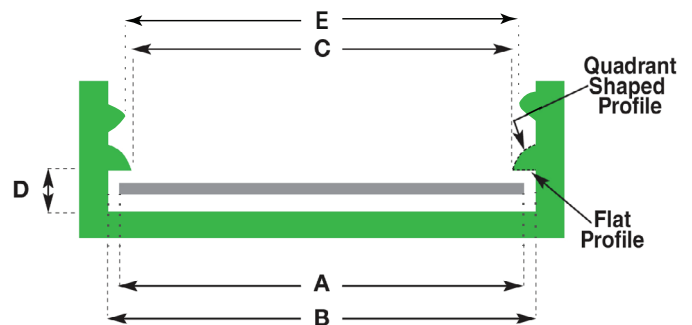

Figure 11c: Dimensional relationships between closure & innerseal.
*Liner Diameter Clearance (mm) = "B" (mm) – "A" (mm) (See Figure 11c)*
*Interference Fit (mm) = "A" (mm) – "C" (mm) (See Figure 11c)*
**3. Retention Bead Profile** - to minimize damage to liner upon insertion but ensure retention in closure. (See Figure 11c)
With regard to the Retention Bead Profile, ideally this should be quadrant shaped on top (insertion side) and flat underneath (retention side) to minimize insertion distortion and to resist liner pull-out. Avoid tapers or radii from the bead flat to the side wall to avoid the liner jamming on a taper or radius, causing the membrane to separate by shear rather than by a lifting action (tension). Refer to Figure 11c below describing bead profile.
Ideally the retention bead inner diameter (C in Figure 11c) is the same diameter or smaller than the closure thread internal diameter (E in Figure 11c). This will minimize any distortion to the outer edge of the liner when it is inserted past the closure threads. To achieve this while still maintaining the liner clearance (B-A) relationship, and minimizing the thickness of the closure side wall in the retention bead height area, equally-spaced tangential flats (6-8) can be added to the closure side wall beneath the retention bead. The preference for tangential flats as opposed to narrow ribs, is that not only do they avoid sharp rib corners that can dig in and damage the edge of the liner, but that a tangential flat helps to keep the liner centered and presents a smooth surface against which the liner can smoothly rotate and correctly function beneath the retention bead, thus reducing the risk of liner pull out or visual defects on the liner. The liner recess diameter 'B' dimension would then be taken as the distance between two opposing flats.